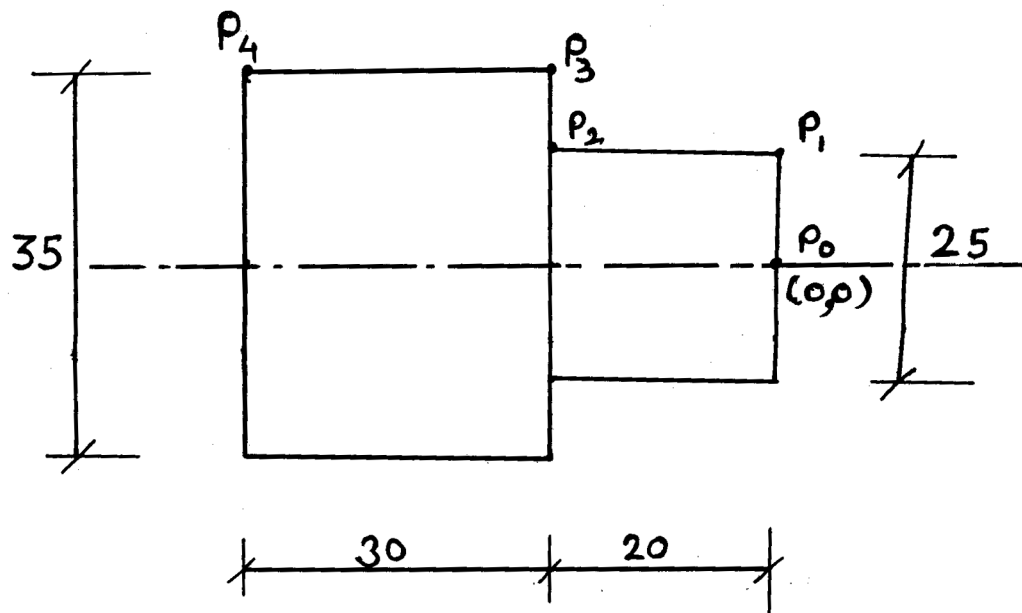

Fig. No. 1
- Prepare process sheet and calculate cutting parameters for turning on CNC lathe for the component shown in Figure No. 1. Neglect tool compensation. Assume suitable data if necessary.
- Develop full G and M - code manual part program of CNC lathe for component given in Figure No. 1 in Word Address Formate (WAF).